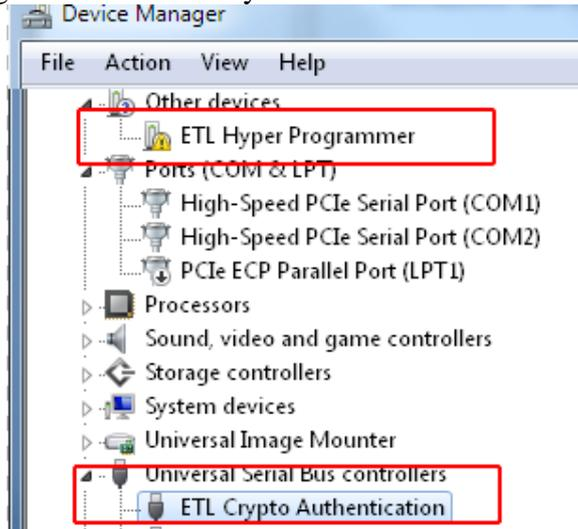

Figure 10. The "ETL Crypto Authentication" device successful installation
- One of the drivers was installed successfully (Figure 10). Install another driver for the "ETL Hyper Programmer" same way.